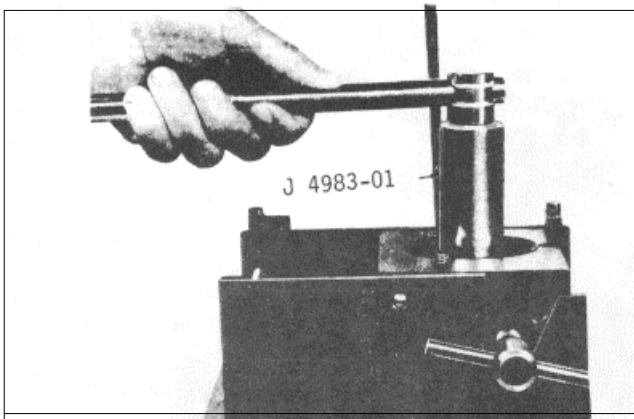

Fig. 25
- (4) Invert the fixture and, using socket J 4983-01, loosen the nut on the injector body (Fig. 25).